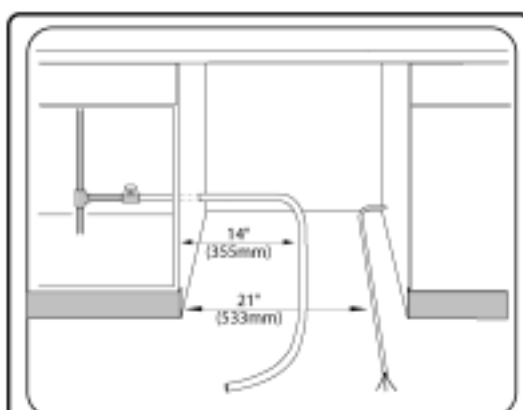

Figure 18/Ilus. 18
- 1) Straighten and position the hot water supply line and the electrical supply cable as shown in Figure 18 so that they will align with their channels under the dishwasher base.